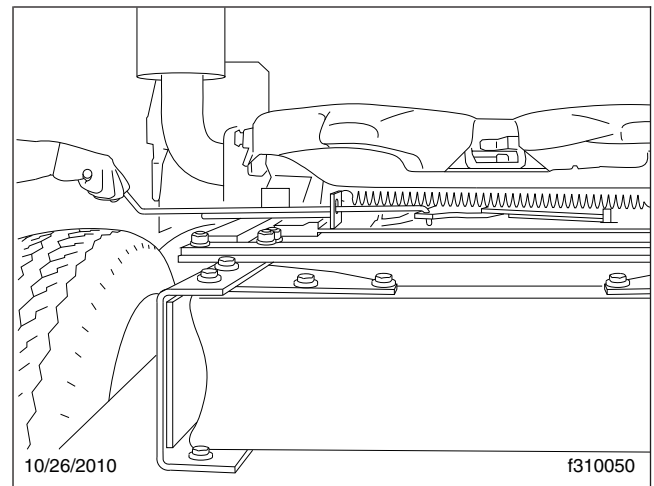

Fig. 17.13, Sliding Fifth Wheel Manual Release, Fontaine
- 2.1 **Fontaine:** Lift the slide release pull handle to disengage it from the guide plate. Then, pull out the handle until it is in the unlocked position and can be positioned against the guide plate to hold it out. The handle will stay in the unlocked position until it is manually disengaged from the guide plate. See Fig. 17.13.